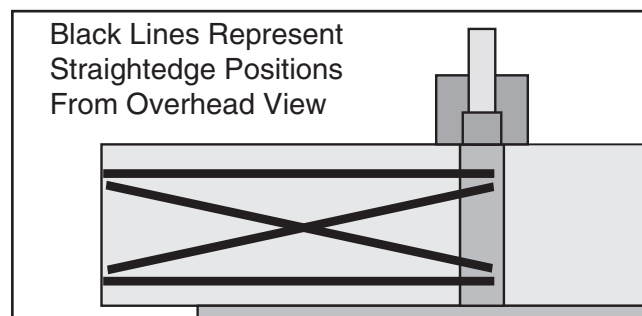

Figure 62. Straightedge positions for verifying if outfeed table is parallel with cutterhead.
6. Place the straightedge in the positions shown in **Figure 62**. In each position, the straightedge should touch the cutterhead and sit flat on the outfeed table.
3. Place the straightedge in one of the positions shown in **Figure 62**, and adjust the eccentric bushings (a pin-type spanner wrench or small hammer and punch may be necessary to turn the eccentric bushings) so that the straightedge touches the cutterhead body while lying flat across the outfeed table. Repeat this step with each of the remaining straightedge positions as many times as necessary until the outfeed table is parallel with the cutterhead.